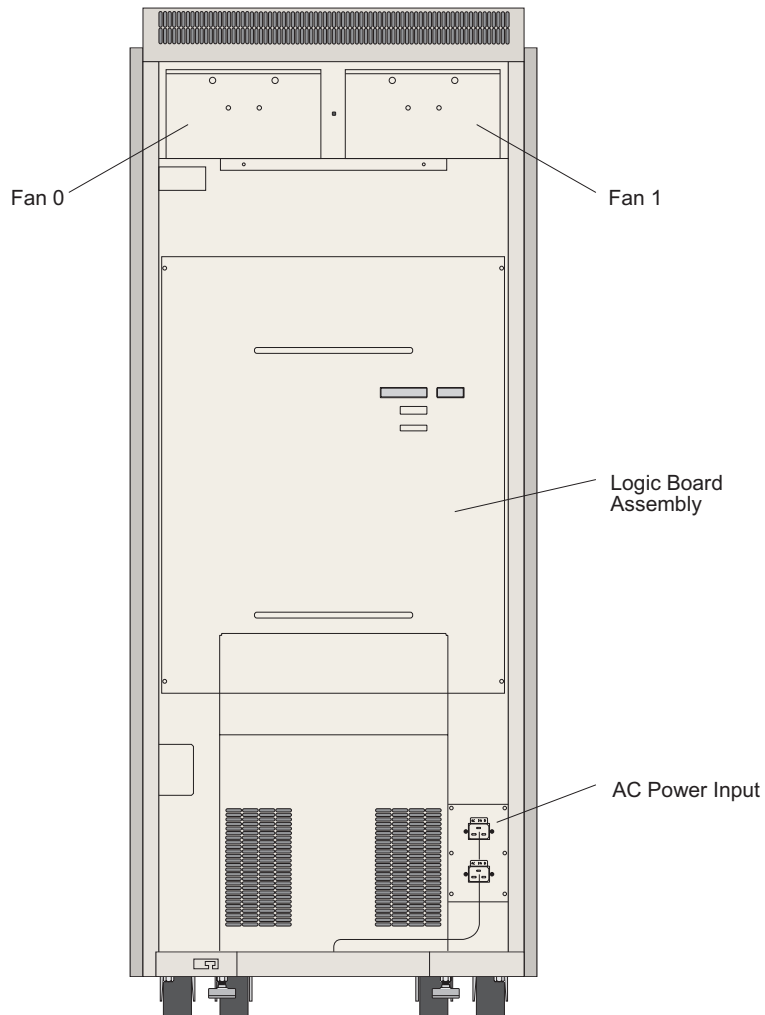

Figure 8. 9032-005 Director (Rear View)
- **Fan Assembly** - The Director contains two fan assemblies (Figure 8). Each assembly contains two fans with associated LEDs that illuminate when the fans are operational. The fans provide cooling for Director components and redundancy in case of fan failure. With no FCV port cards installed, the Director can operate with any two of the four fans operational. With FCV port cards installed, the Director can operate with any three of the four fans operational. Each fan assembly is a concurrent FRU that is removed and replaced while the Director is operational.
- **Logic Board Assembly** - The logic board assembly (Figure 8) provides electrical and signal connections for the logic cards, power supplies, and fan assemblies. The logic board assembly is a nonconcurrent FRU that is removed and replaced only when the Director is powered off.
- **Ac Power Input** - The ac power input contains two plug receptacles for 180 to 264 Vac power (Figure 8). Each plug receptacle connects to one power supply. For redundancy, it is recommended each receptacle be connected to a separate facility power source.